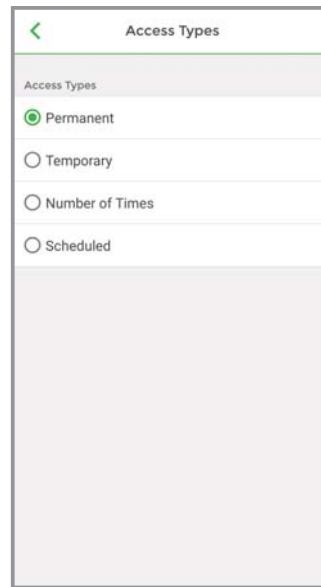

Figure 3
i. Access Type : (4 options) (See Figure 3)
- (A) Permanent : Permanent access is given by default.
- (B) Temporary : Set specific access time period for guests and visitors.
- (C) Number of Times : To set number of access granted to user.